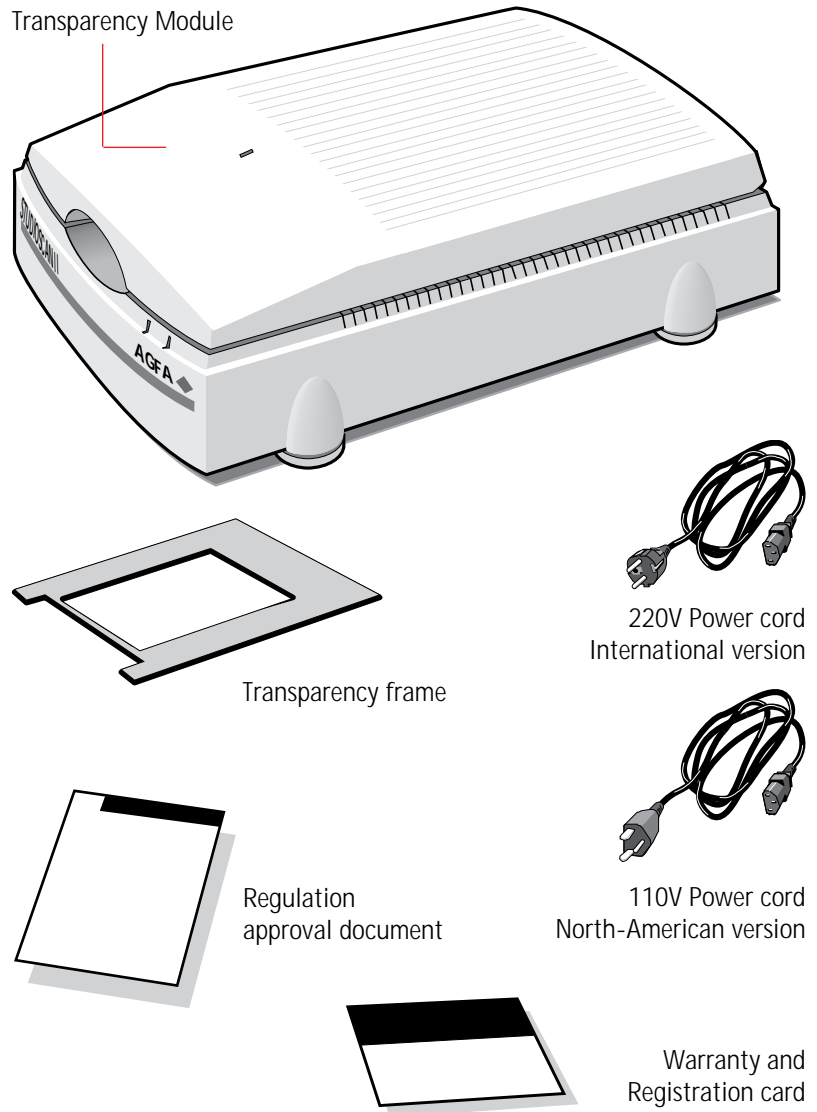

Figure 5
2. **Check each item against Figure 5 to make sure that you have everything.**